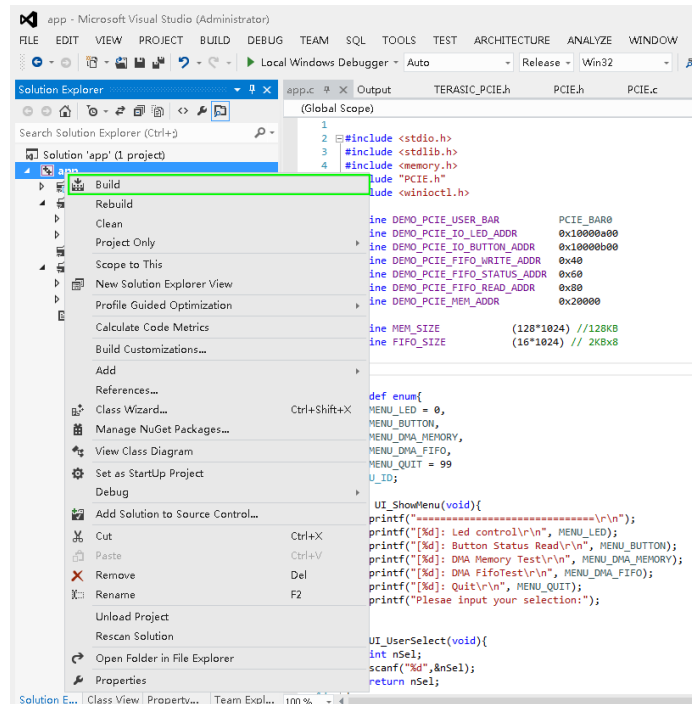

Figure 3-14 Build the project in Visual Studio 2012
6. Right-click on the project “**app**” from the “**Solution Explorer**” to launch the popup menu and select “**build**” item to build the project as shown in **Figure 3-14**.